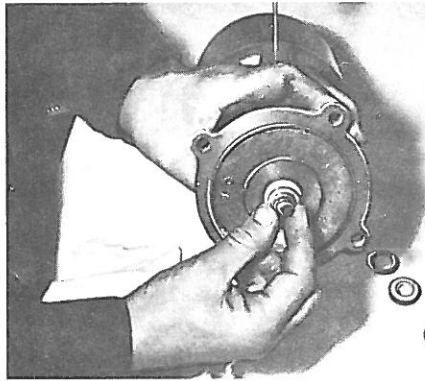

FIG. 8
9. Check to see that the polished ceramic seal face is clean; then insert shaft seal over the threaded shaft so that the carbon face is in contact with the ceramic face (the opposite end of the seal is rubber. (See Fig. 8)